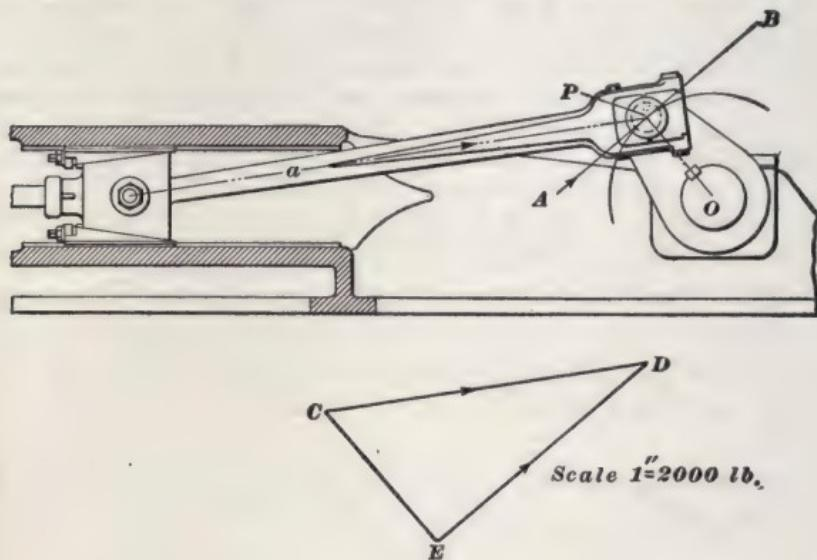

FIG. 6.
bearings of the shaft and there is no turning effect on the pin. After the pin leaves the center, the pressure exerted on it by the connecting-rod may be resolved into two components: One of these components acts in the direction of the center line  $PO$  of the crank (see Fig. 6) and merely
**EXAMPLE.**—If a force of 3,000 pounds acts along the connecting-rod *a* in the direction of the arrow (see Fig. 6), what is the tangential pressure on the crankpin?